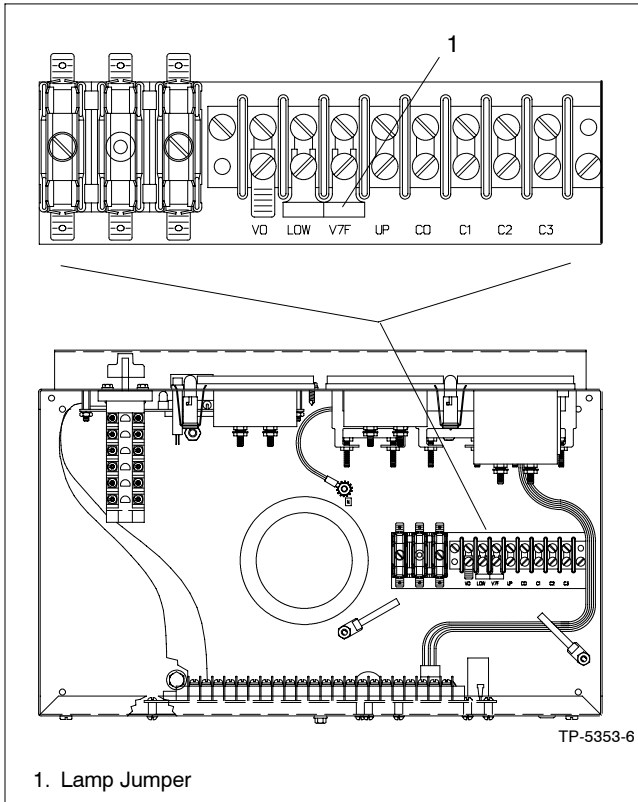
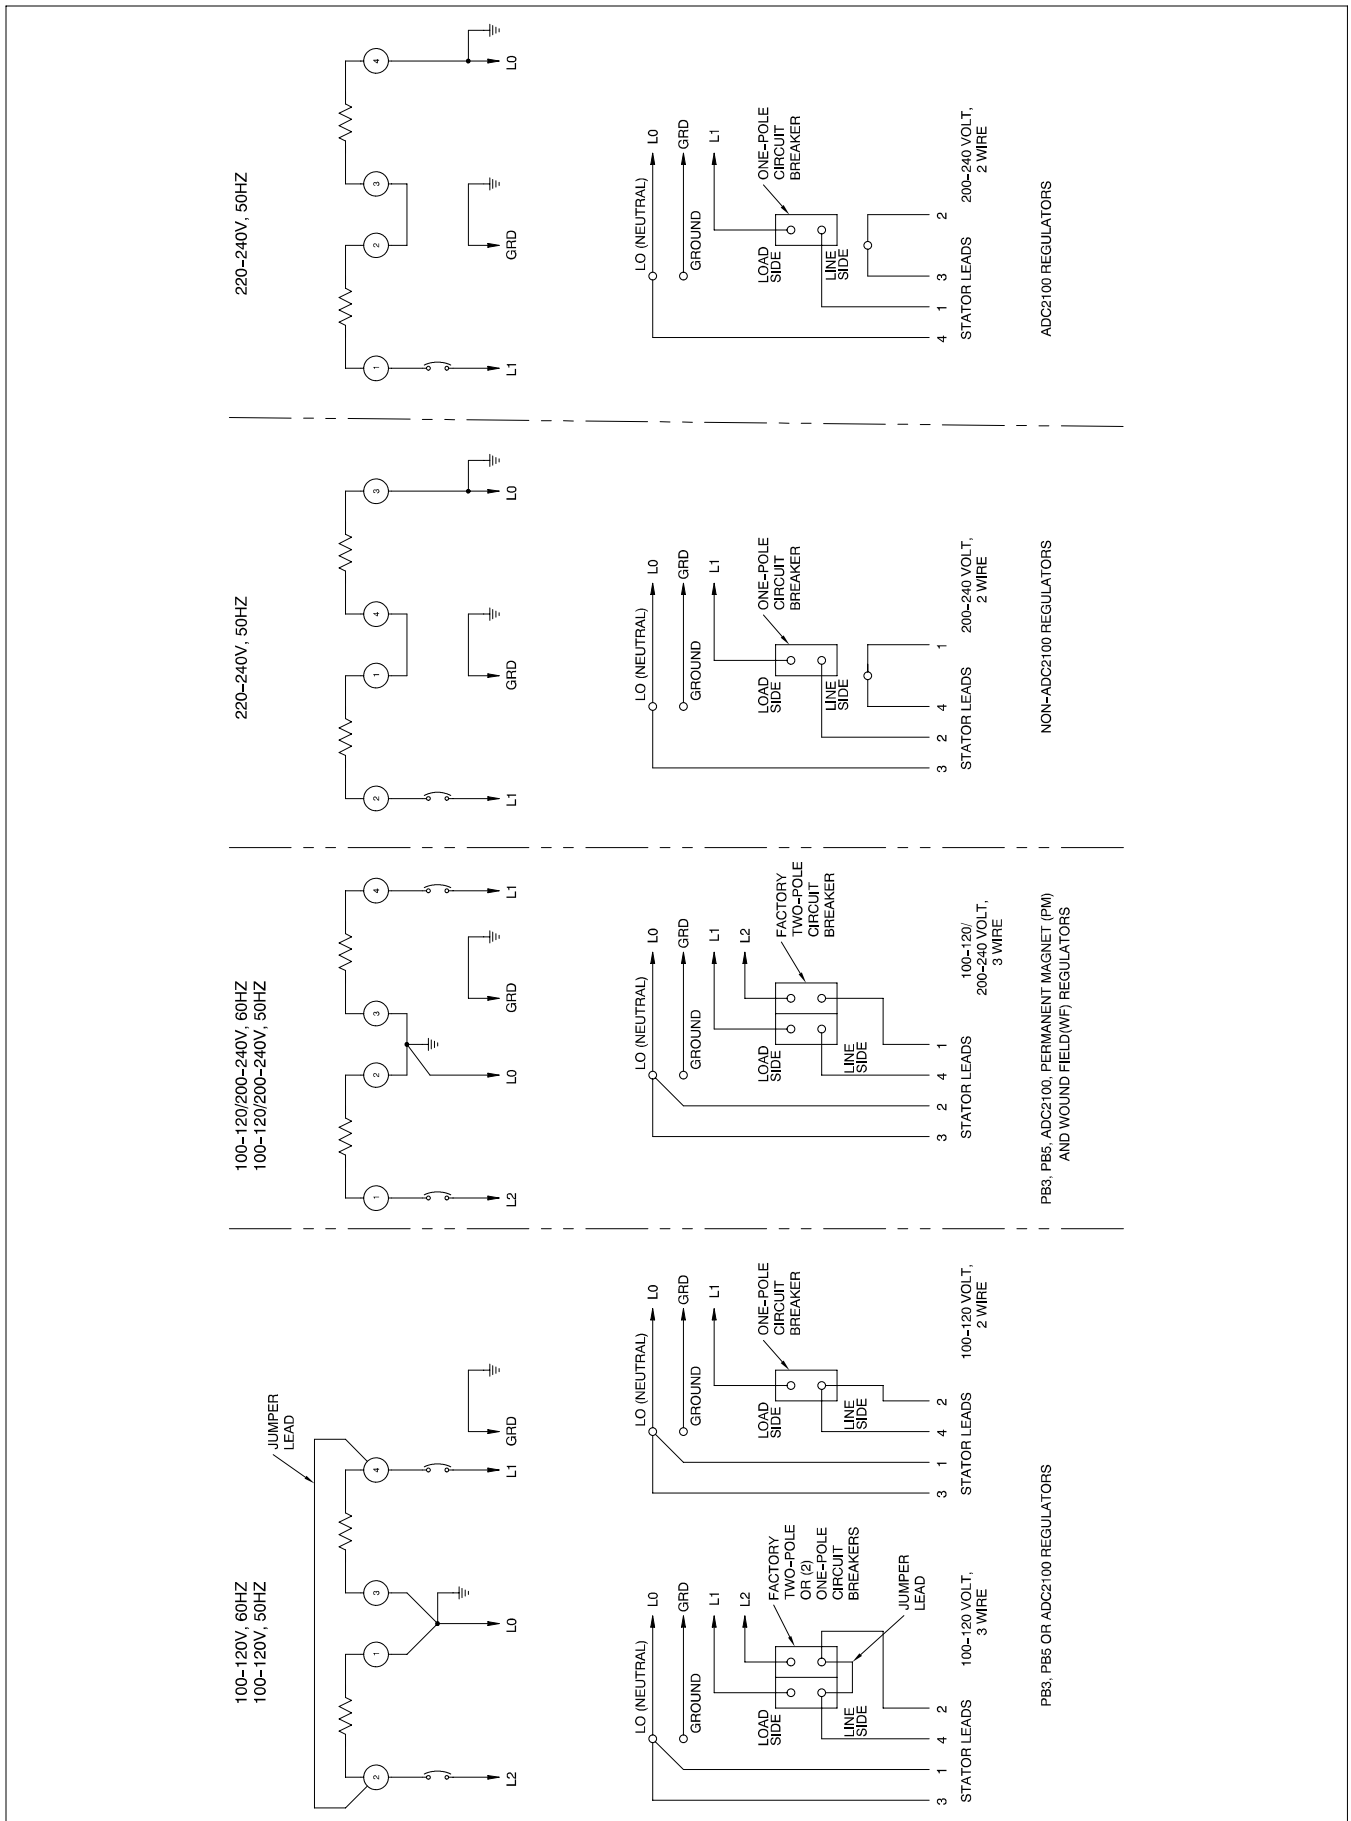
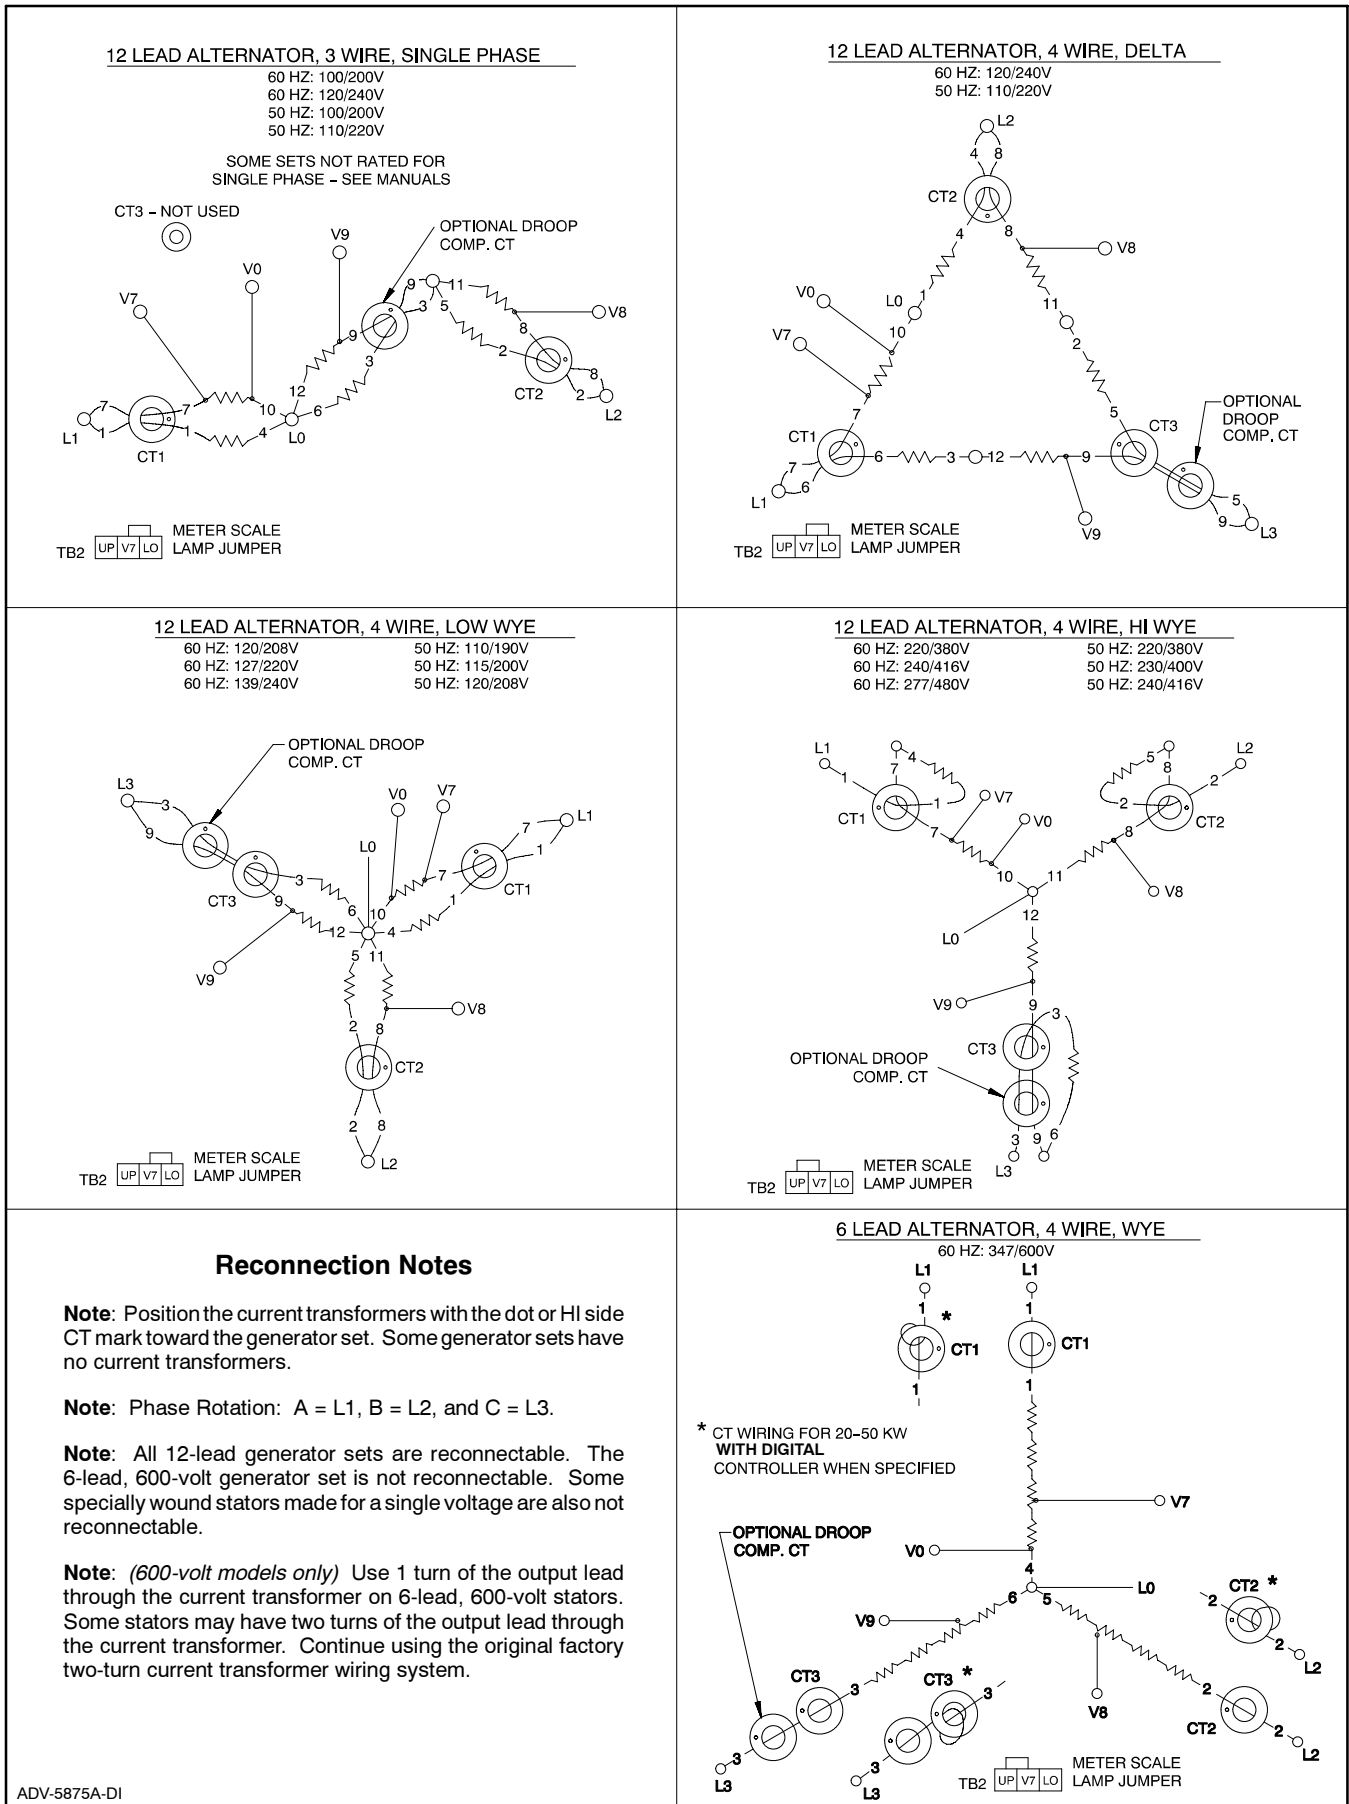
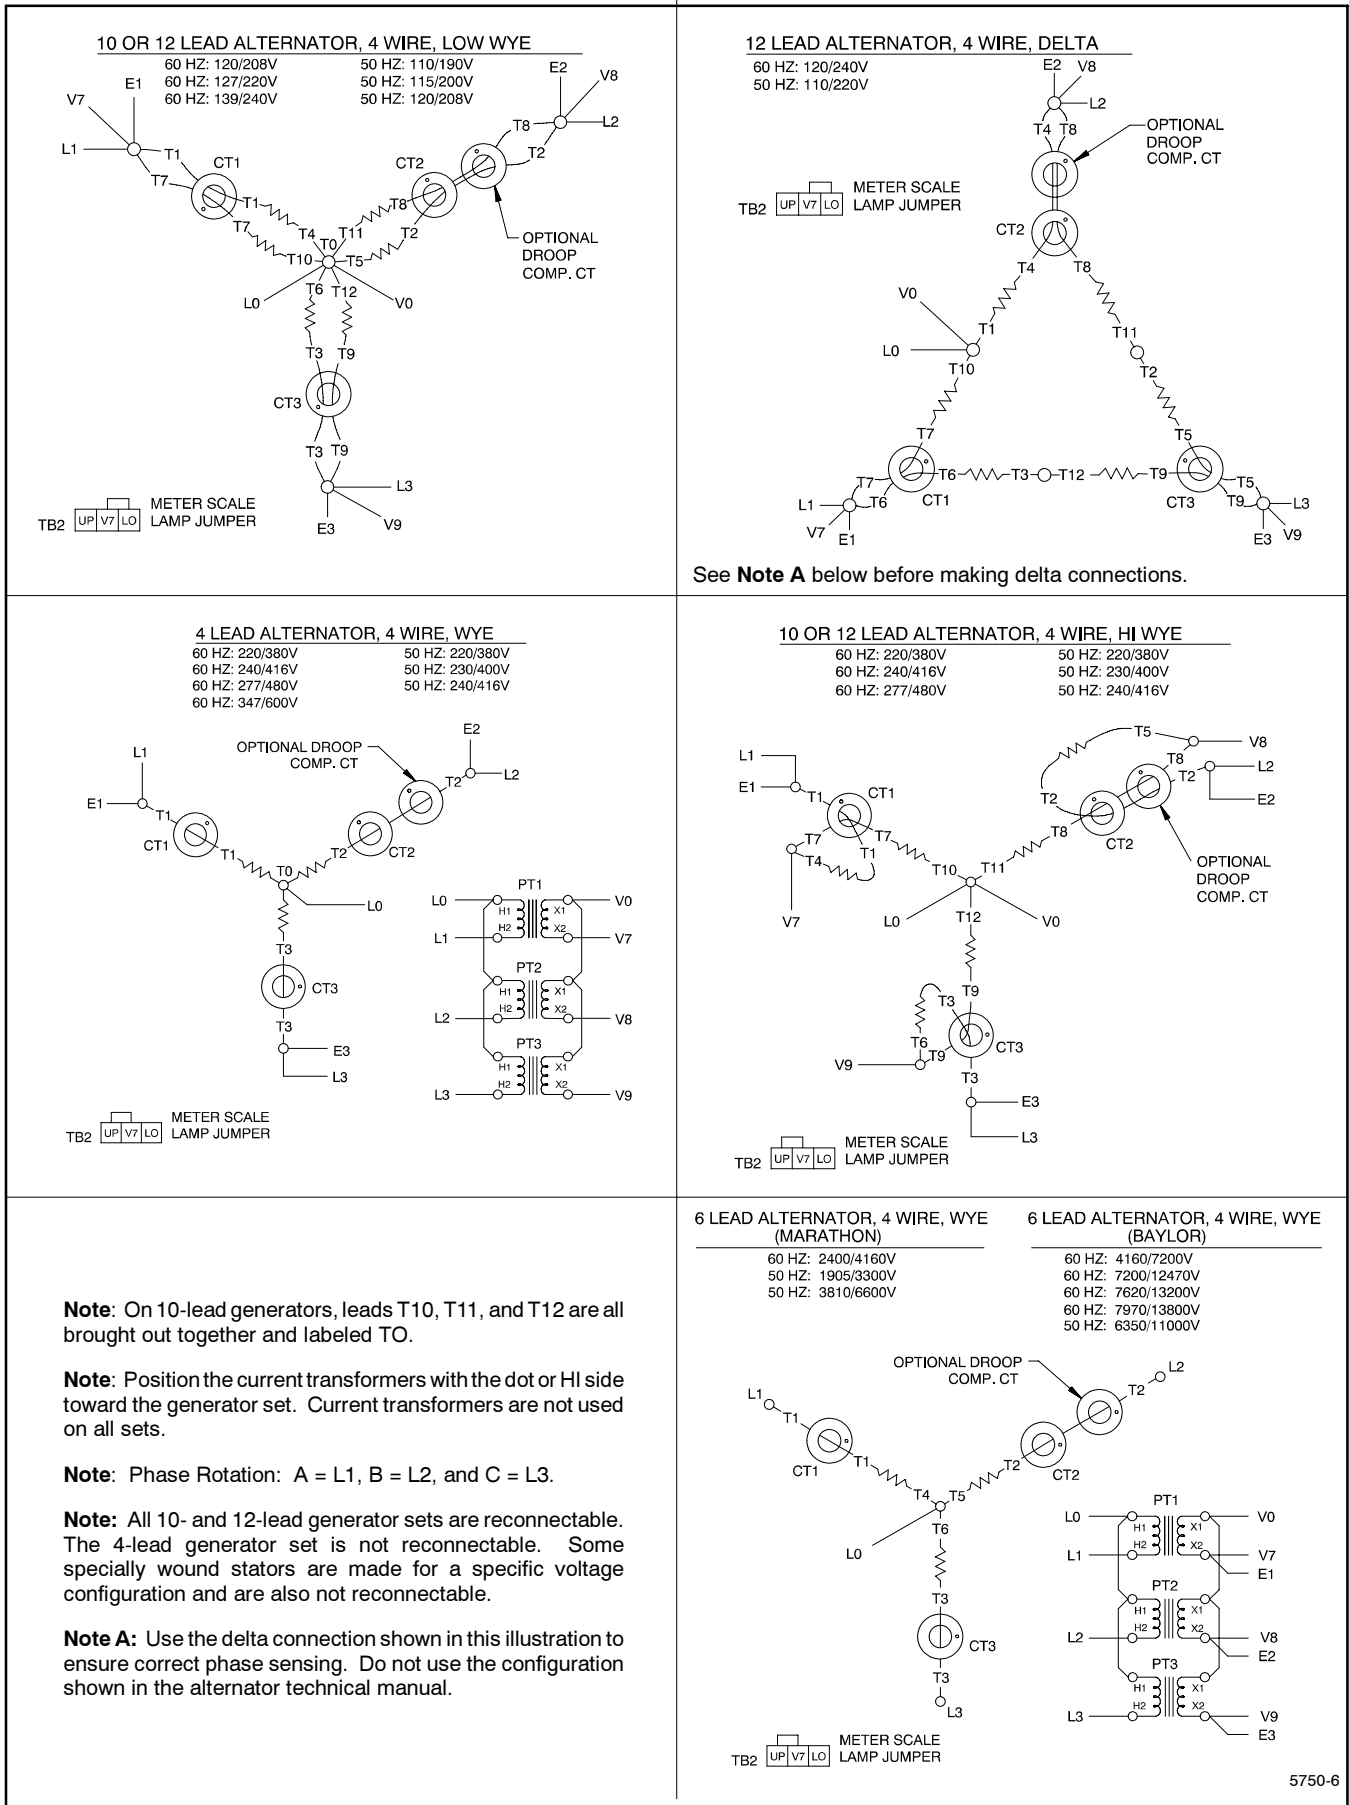

Figure 5-1 Meter Scale Lamp Jumper
Figure 5-5 Generator Set Reconnections, 20-150 kW Models, Single-Phase
Figure 5-6 Generator Set Reconnections, 20-300 kW Models, 3-Phase
Figure 5-7 Generator Set Reconnections, 350–2000 kW Models, 3-Phase
Reconnect the generator set stator leads to change the output phase or voltage. Refer to the following procedure and the connection schematics in Figure 5-5, Figure 5-6, or Figure 5-7. Follow the safety precautions at the front of this manual and in the text and observe National Electrical Code (NEC) guidelines.
3. Use Figure 5-5, Figure 5-6, or Figure 5-7 to determine the generator set voltage configuration. Note the original voltage and reconnect as needed. Route leads through current transformers (CTs) and connect them according to the diagram for desired phase and voltage.
4. If the controller has meters, remove the controller cover and reposition the meter scale lamp jumper (see Figure 5-1) to match the position for desired voltage (shown in Figure 5-5, Figure 5-6, or Figure 5-7). Replace the controller cover.
5. Connect a digital AC voltmeter (or other highly accurate voltmeter) to terminals V0 and V7 on the controller terminal block. See Figure 5-1.